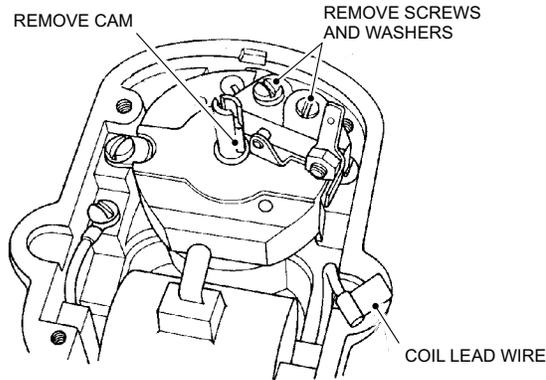

Figure 6.7.1
- D. Remove the cam by prying straight up with a screwdriver blade. (See Figure 6.7.1.)